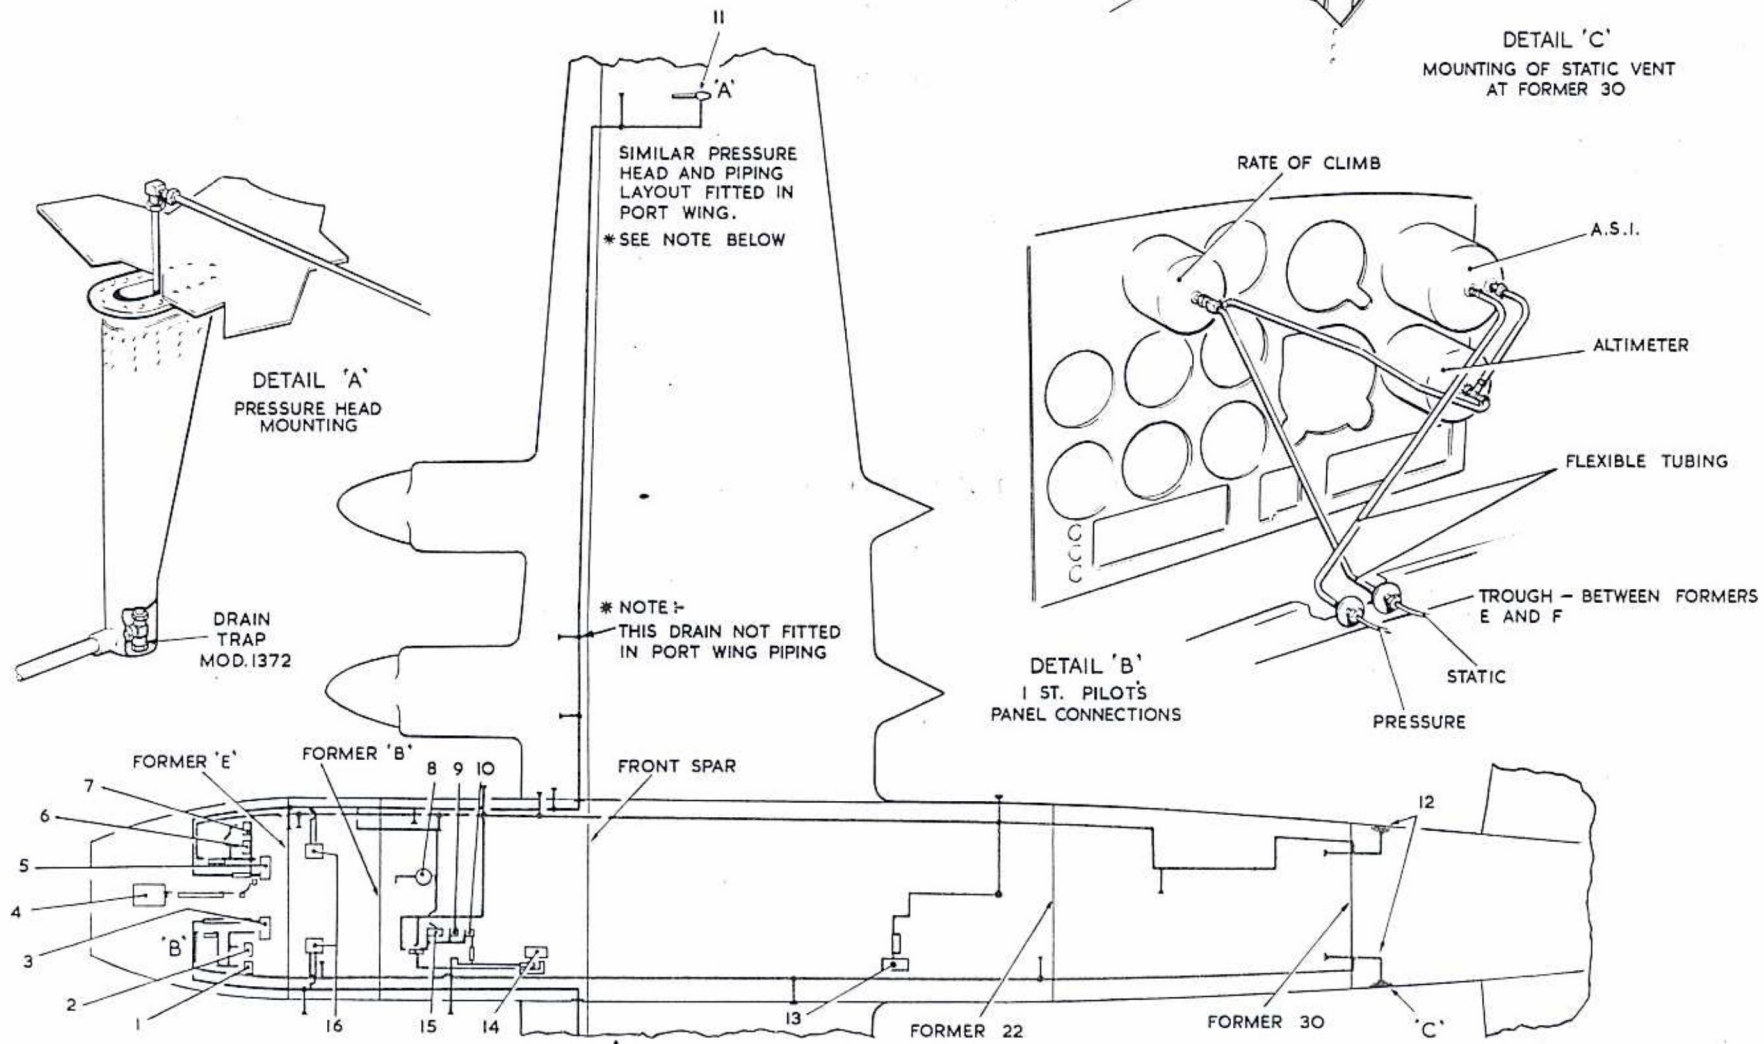

Fig 1. Pitot - static system
of the first pilot's instruments, the second pilot's instruments will continue to function from the starboard system. The installations are illustrated in fig.1 and 2.
4. Light alloy piping is used throughout the installation with short lengths of flexible rubber tubing connecting to the instruments. Fig.1 shows the pipe runs and location of connected instruments.
5. A total of twenty drain traps (twenty two, Post Mod.1372) are fitted in the installation. They are located at various points in the pressure and static lines as shown in fig.1 and 2. The drain traps can easily be removed to release moisture trapped in the system.